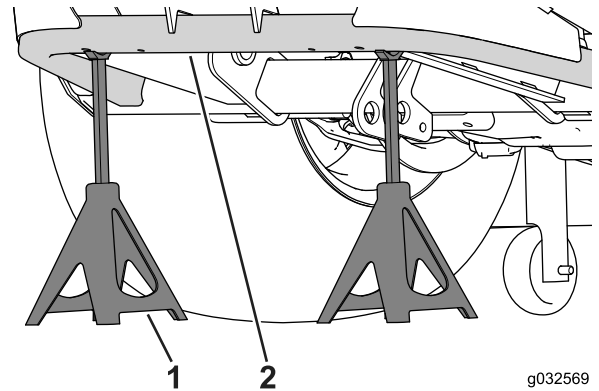

Figure 76
2. Use a floor jack to raise the rear wheels off the ground and then support the frame with jack stands (Figure 76).